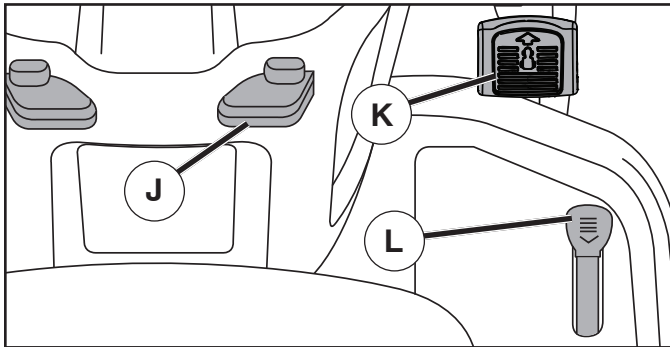

Fig. 20
TO MOVE FORWARD AND BACKWARD (See Fig. 20)
- Slowly depress forward (K) or reverse (L) drive pedal to begin movement. Ground speed increases the further down the pedal is depressed.
TO USE CRUISE CONTROL (J) (See Fig. 20)